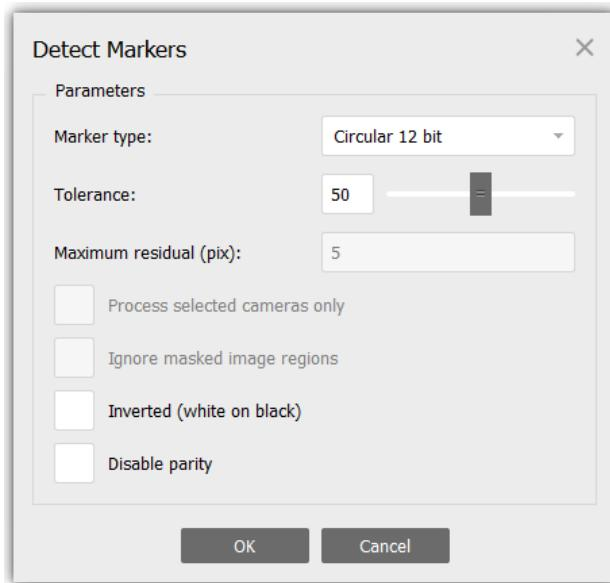

Figure 4.11 Screenshot of ‘Detect Markers’ dialog.
1. If Metashape target patterns were used, click on Tools → Markers → Detect Markers (Figure 4.11):